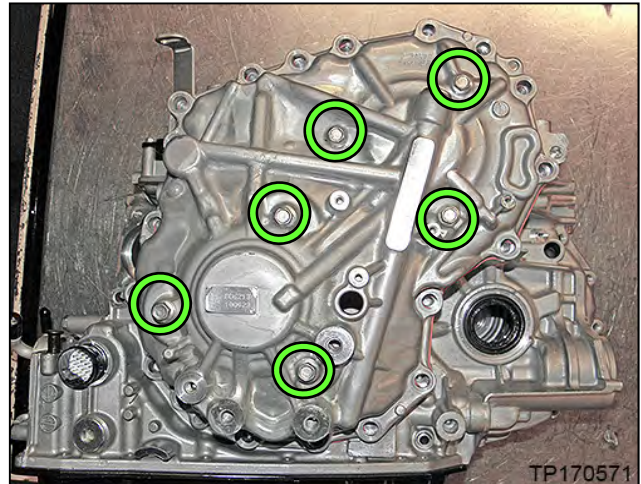

Figure 76
- c. Install the Lifting Fixture to the CVT case at the six (6) bolt holes shown in Figure 76.
- 1) Tighten the lower six (6) wing-nut bolts.
- 2) Tighten the two (2) joint to triangle brackets.
- 3) Tighten the top two (2) wing-nut bolts, and then proceed to step 57 on the next page.